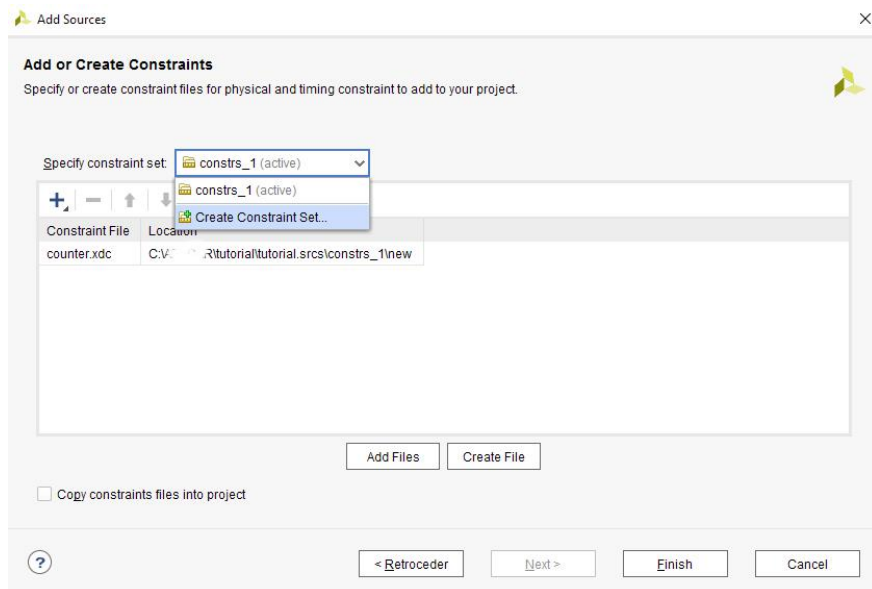

Figure 43
5. In the new window, open the drop-down menu in front of the **Specify constraint set:** entry, and select **Create Constraint Set...** (Figure 43)